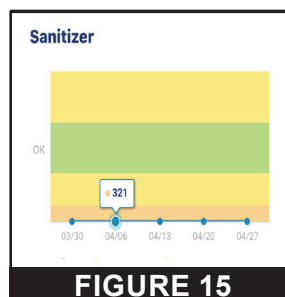

FIGURE 15
- **Sanitizer (Figure 15):** Previous sanitizer readings can be viewed on an hourly, daily, weekly or monthly graph.